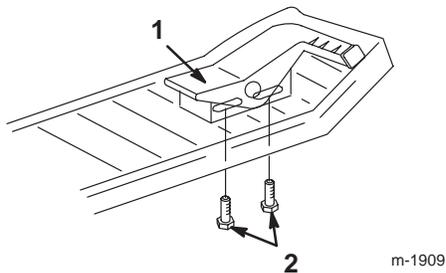

Figure 6
2. Slide the pedal forward for a faster reverse speed or backward for a faster forward speed (Fig. 6).